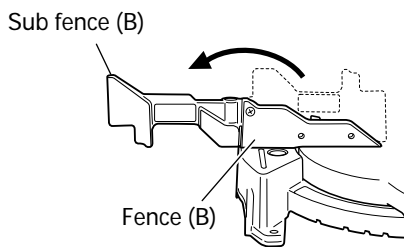

Fig. 11
In the case of direct angle cutting and angle cutting, use the sub fence. The sub fence (B) can be installed on the right side of the guide fence (B). Place the attached plate (A) in the position as shown in figure 11, insert the tip in the groove of fence (B) and simultaneously, insert flathead screw M6 into fence (B), sub fence (B), and plate (A), then tighten nylon nut M6 with the included 10mm box wrench until the sub fence (B) can smoothly rotate. Then, you can realize stable cutting of the material with a wide back face.